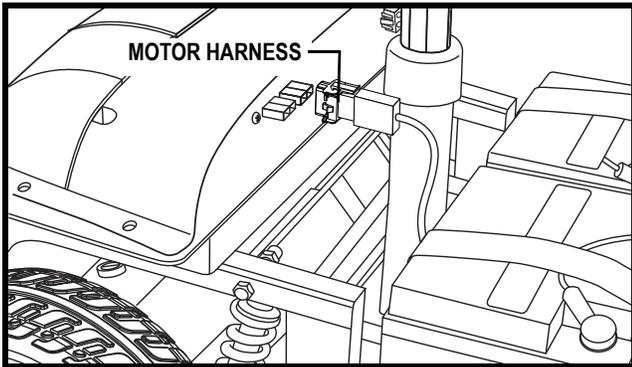

Figure 21. Motor Harness
**NOTE:** There is no need to disconnect the motor harness when disassembling the scooter. See figure 21.